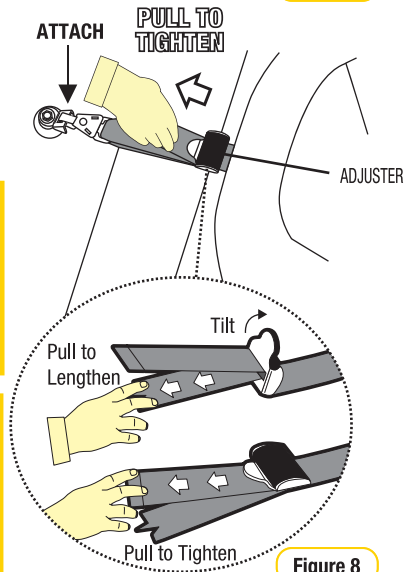

Figure 8
- Step 6:** Pull to tighten to remove all the slack from the upper anchorage strap. Do not overtighten as this could cause the restraint to lift off the vehicle seat (refer Figure 8).